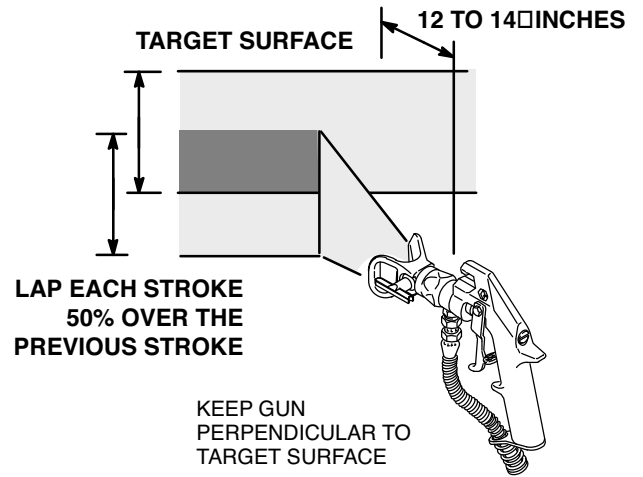

FIG. 11
Read the spray techniques in Steps 1-5 below and FIG. 10 and FIG. 11, and follow 3M's recommendations on application of the masking liquid.
4. Hold the gun perpendicular (at right angles) to the target surface. Hold the gun as even 12 to 14 in. from the target surface. (FIG. 11)
5. Lap each stroke 50% over the previous stroke to produce a uniform material thickness. (FIG. 11)